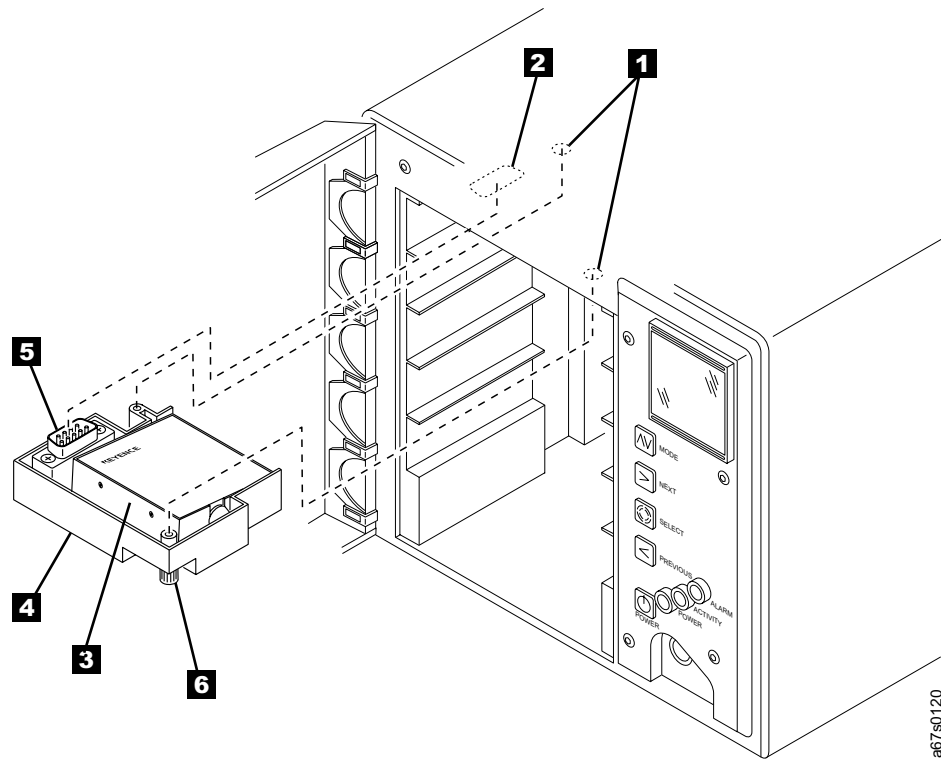

Figure 35. Installing the bar code reader
3. Referring to Figure 35 on page 103, locate the mounting hole **1** and interface connector **2** on the inside top panel of the autoloader, directly above cartridge storage slot 1.